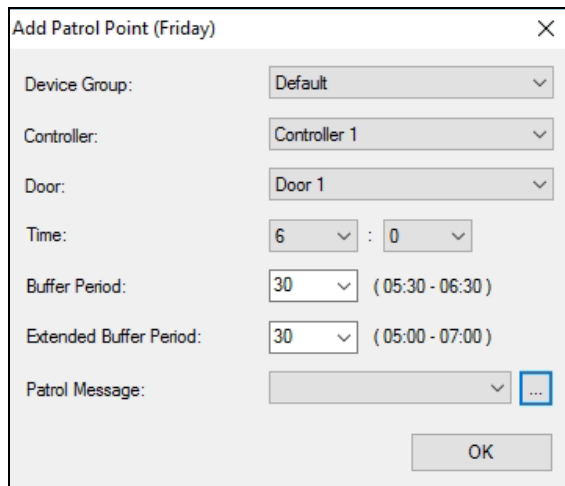

Figure 7-2
- **Buffer Period:** Specify the Buffer Period in minutes, which will be added before and after the check-in time specified above. Security staff checking in during the buffer period will be considered on time. Using *Figure 7-2* as an example, the security staff needs to check in between 5:30am and 6:30am to be considered on time.
- **Extended Buffer Period:** The Extended Buffer Period will be added before and after the Buffer Period specified above. Security staff who checks in during the Extended Buffer Time is considered late or early, and alert notifications can be set off if enabled. Using *Figure 7-2* as an example, check-ins between 4:50am - 5:30am will be marked as Early, while check-ins between 6:30am – 7:10am are considered late.